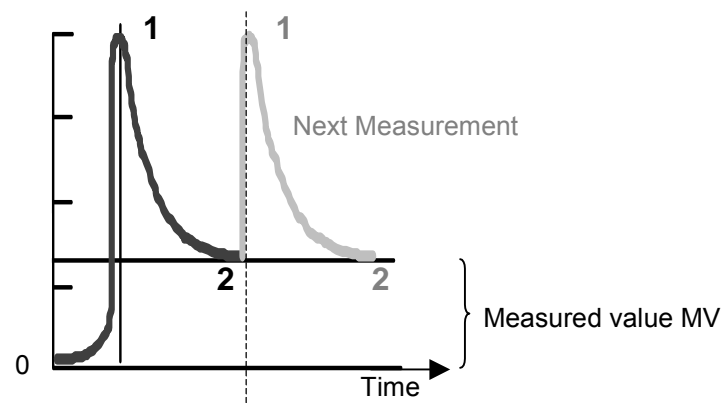

Fig. 14 Schematic Osmogram for a one droplet exchange
1. Apply a new sample droplet — The signal indicates a positive overload, see 1 in Fig. 14.
2. A constant measurement value will be reached when the signal decreases until thermal equilibrium is reached, see 2 in Fig. 14.